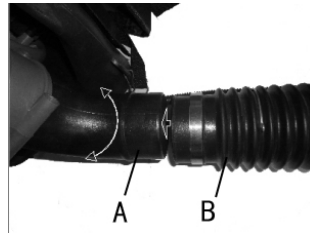
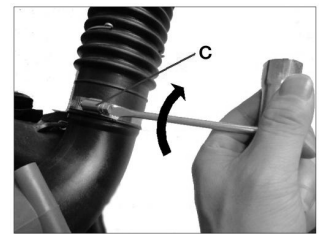

Fig.1
Fig.2
Put the hose clamp (C) on the flex tube before connecting the flex tube and the fan's outlet tube. Connect the flex tube (B) to the fan's outlet tube (A) (Fig.1) with a hose clamp (C) (Fig.2) and tighten securely (Fig.2).